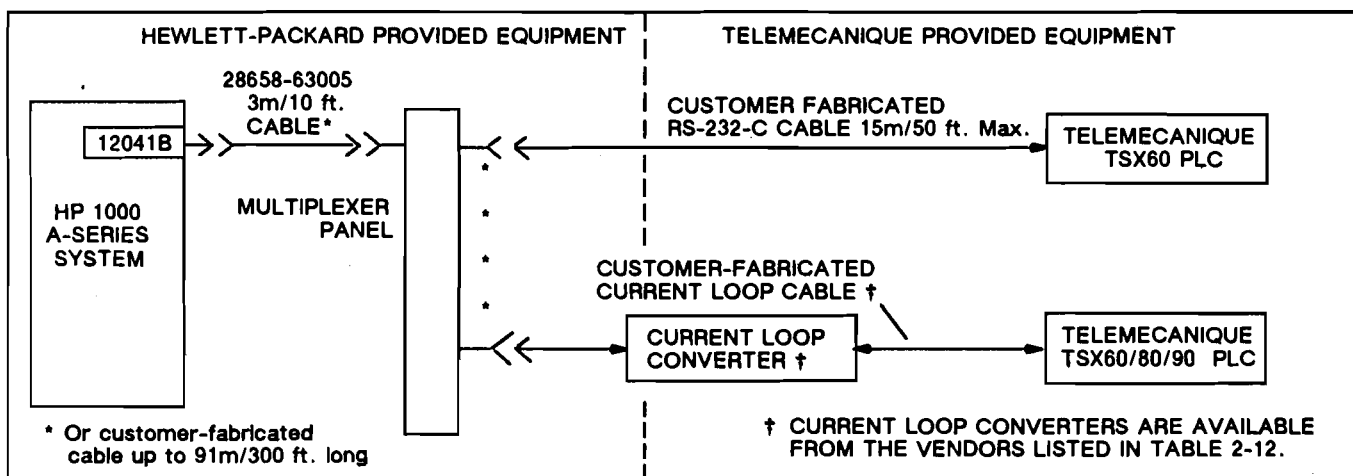

Figure 2-7. Connection of Telemecanique PLCs to HP 1000 A-Series System
**Telemecanique:** TSX60, TSX80, and TSX90 PLCs connected as shown in Figure 2-7 when the HP 94205A Telemecanique PLC Device Handler is configured with the HP 94200B PCIF/1000 Configurator/ Monitor.